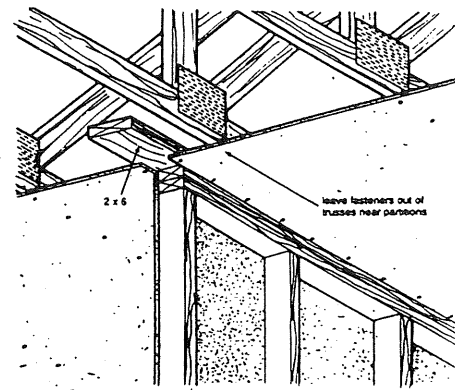

Figure 5. For trusses parallel to partitions, install 2 x 6 nailers for fastening ceiling materials. Leave fasteners out of trusses close to partitions.
- Construction practices in some parts of the country suggest installing “dead-wood” blocking to the top of the wall plates between the trusses. These blocks provide a surface to attach the edges of the drywall. Attachment of the drywall can then be held back 12 to 16 inches on the trusses, Figures 5 and 6.